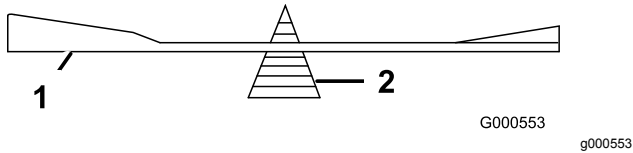

**Figure 104**
1. Use a file to sharpen the cutting edge at both ends of the blade (**Figure 104**).
**Note:** If the blade is not balanced, file some metal off the end of the sail area only (Figure 104).